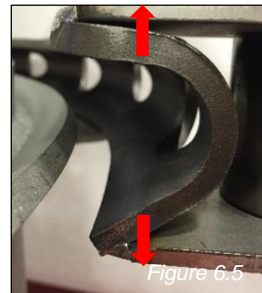

Figure 6.5
2. **Narrow Strap Opening** – If the “C” opening of the strap has been compressed closed, it can be opened to the appropriate gap by using standard tools. Do not apply heat to the strap section to accomplish. The maximum allowable distortion is 1/8”. (Figure 6.5) Top lip must remain flat.